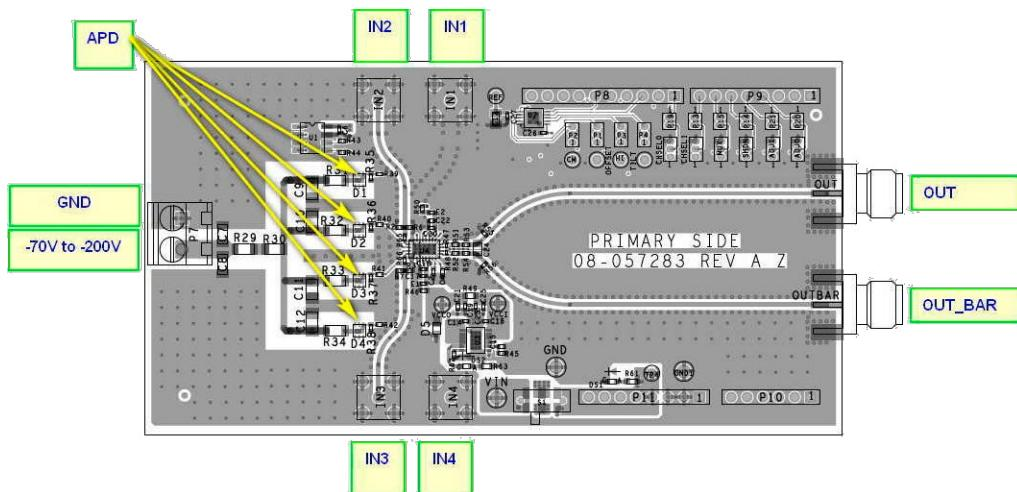

Figure 1. Connection Diagram (IN1 to IN4 Optional for Electrical Testing Only)
10. Using an external $400nm$ to $1100nm$ wavelength pulsed laser, similar to the one identified in the Equipment List as the ST micro light source, illuminate the APDs, which are identified in Figure 1. With the default board setting which selects IN1 or Ch1 (CHSEL0 = CHSEL1 = 0), position the laser to illuminate the Ch1 APD (D1).